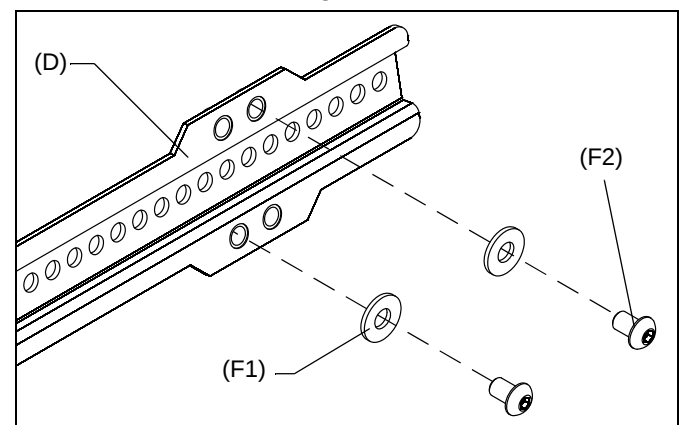

Figure 7
2. Attach uprights (B and C) to the display brackets (D) on the display back using eight 5/16" x 1/2" button head cap screws (F2) and eight 5/16" flat washers (F1).
IMPORTANT ! : Attach uprights with four screws per display bracket (D), two at each end. If possible, attach the uprights with one screw in a top hole and one diagonally located in a lower hole on each end of the display bracket. (See Figure 7) At the minimum, one screw should be in a top hole, and one in a bottom hole at each end of the display bracket.